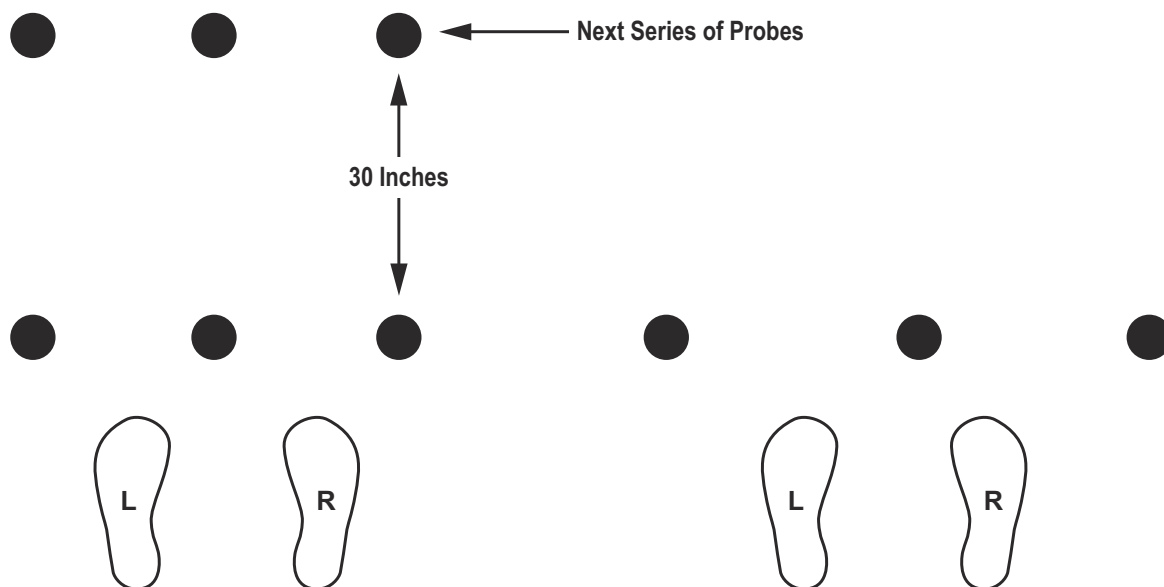

Figure 6-19. Coarse Probe.
- At the command STEP, each man takes a 30-inch step and the process repeats (see fig. 6-19).